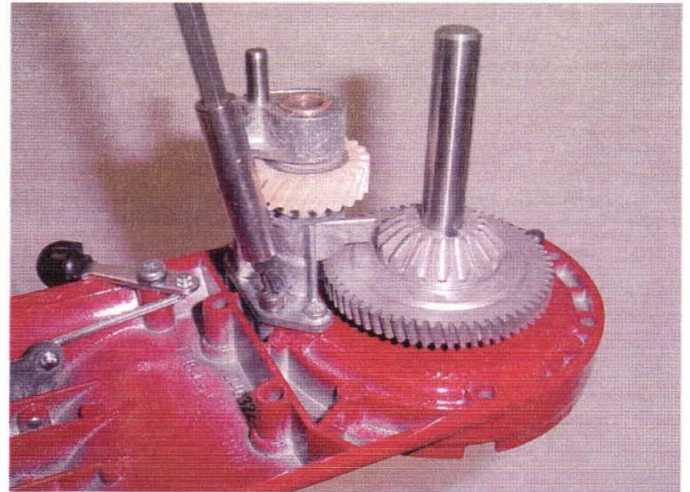

Fig. 52 Worm gear bracket bearing and pin assembly.
C. With a phillips head screwdriver, remove the three #10-24x7/16" phillips filister head screws and lock washer assemblies and lift up on the worm gear bracket bearing and pin assembly to remove (Fig. 52).